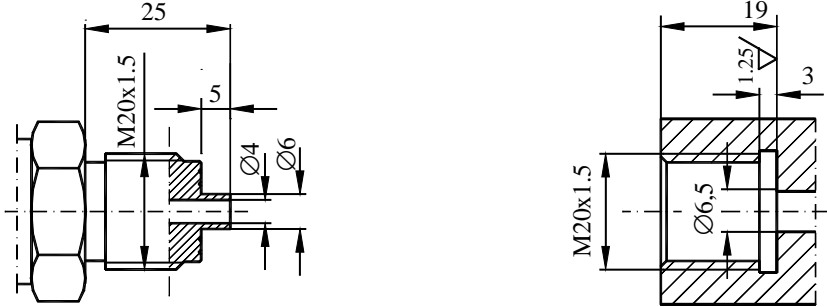

Fig.3. M-type pressure connector with M20x1.5 thread
7.1.1. Transmitters **APC-2000ALW Safety** can be mounted directly on rigid impulse tubes. Pressure transmitters are mounted on one-way vented valves. Such connection of transmitter allows its easy cutting off of the system for washing of measuring membrane, local calibration, diagnostics, etc. Transmitters can work in any position, however cable inlets are best positioned horizontally or facing downwards. In the event of fitting at the facility with medium at elevated temperature it is beneficial to install transmitters in some distance from the stream of hot air. It is recommended that pressure connectors of transmitters are used with corresponding outlets, see Fig. 3 ÷ 4.
Setting (adjustment) of transmitter zero signal can be effected using buttons, after unscrewing the cover of transmitter electronic assembly housing, see Fig.3, using communicator KAP03, or using PC computer, Raport 02 software and modem Hart/RS - Clauses 9.2.3, 9.2.4, 9.2.5.